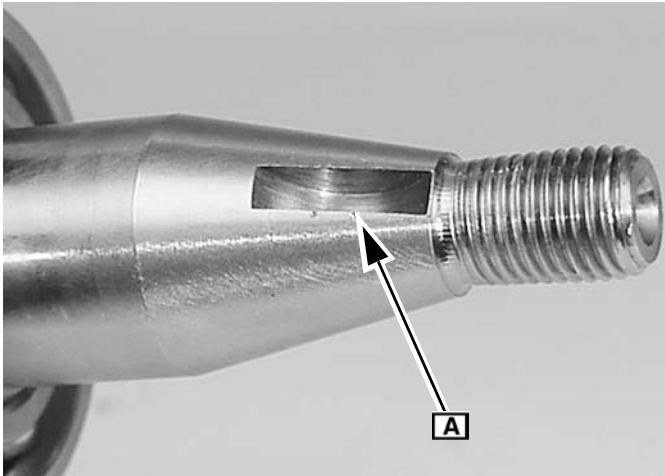

Fig. 29
1. Check the condition of the flywheel key and keyway **A** to ensure that is not partially sheared, galled or distorted (Figure 29).